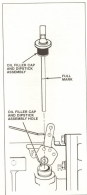

Figure 2-6. Dipstick Assembly
- Remove oil filter cap and dipstick assembly (see Figure 2-6).